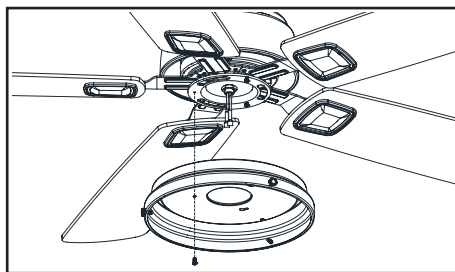

Figure 15
2. Most fan wobble problems are caused when blade levels are unequal. Check this level by selecting a point on the ceiling above the tip of one of the blades. Measure from a point on the center of each blade to the point on the ceiling. Measure this distance as shown in Figure 15. Rotate the fan until the next blade is positioned for measurement. Repeat for each blade. Measurements deviation should be within $1/8''$. Run the fan for 10 minutes.
1. Loosen but do not remove two of three mounting screws from the fan motor assembly; Remove one mounting screw. (Figure 15)
2. Push the switch cup cover up to the fan motor assembly so that the two loosened screw heads fit into the keyhole slots. Turn the switch cup cover clockwise, tightened the screws. Re-install the screw that was removed in step 1 and tighten firmly. (Figure 15)